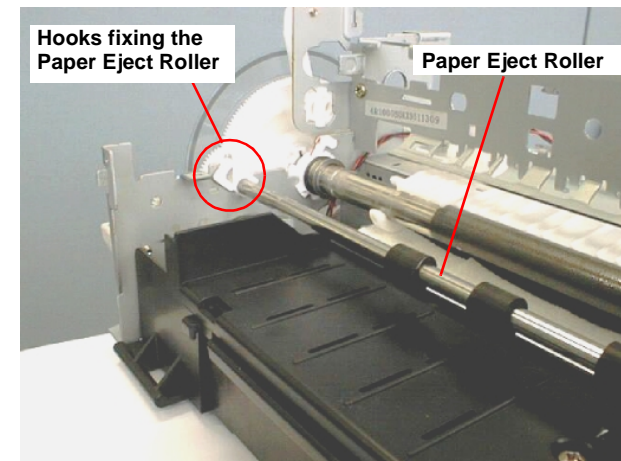

**Figure 4-59. Removing the Front Frame & Paper Eject Frame**
- 9) Remove three screws (No.1) securing the Front Frame to the Printer Mechanism and remove it. Refer to Figure 4-59.
- 10) Remove three screws (No.1) securing the Paper Eject Frame Assembly and remove it. Refer to Figure 4-59.